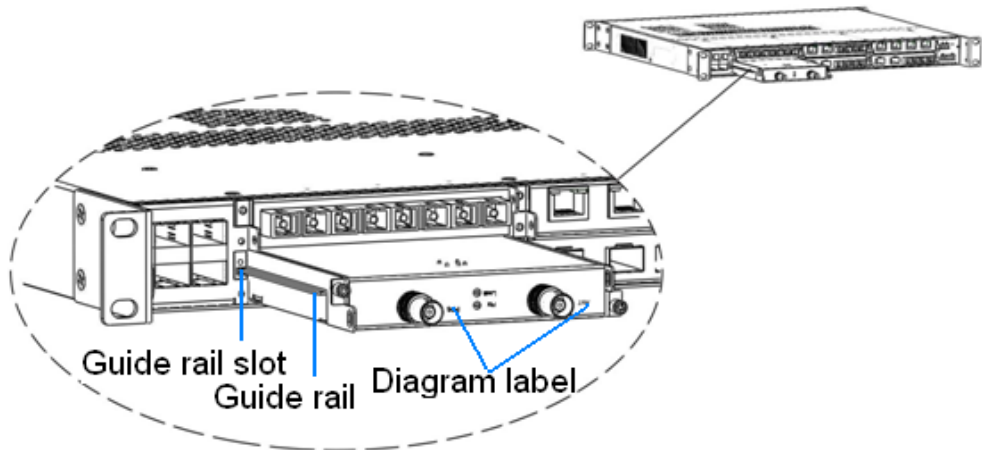

Figure 5 Module Installation 3
Step 1: Place the module with the diagram label upside down. Insert the guide rail of module into the guide rail slot, as shown in Figure 5, and then push the module in along the guide rail slot until the module is in close contact with the switch.